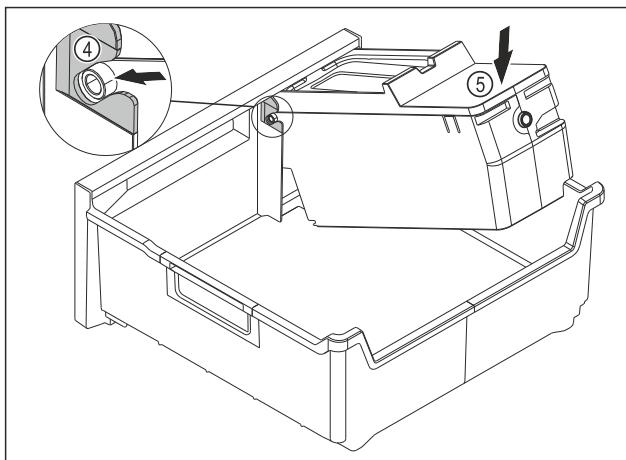

Fig. 81
- ▶ Installing the EasyTwist-Ice body: Push the axes for the EasyTwist-Ice body into the guides *Fig. 81 (4)*.
- ▶ Press the EasyTwist-Ice body *Fig. 81 (5)* down at the back.